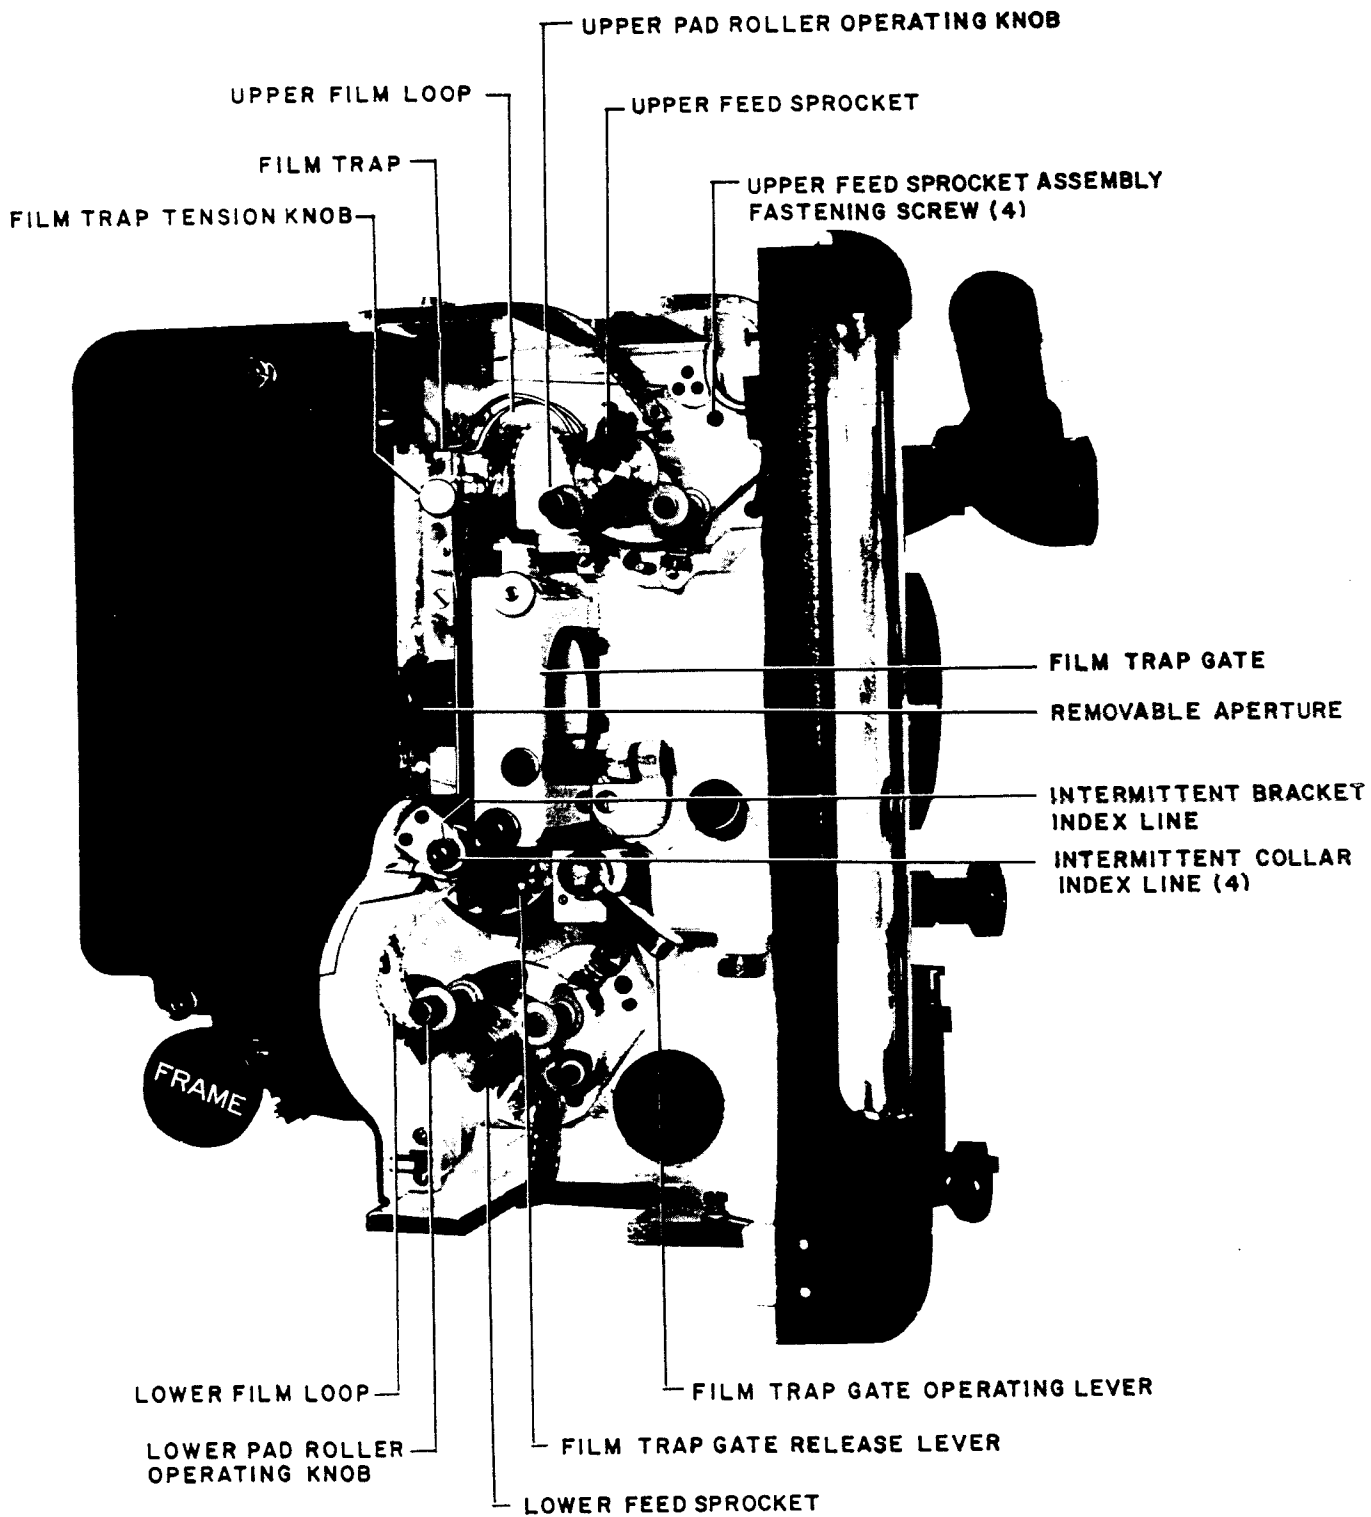

Figure 2-3
1. Remove the film trap gate (figure 2-3)(Section IV, paragraph B, 1.) inspect the film runners for dirt, grit or other foreign material, and clean with a cloth.
2. Remove the film trap (figure 2-3) (Section IV, paragraph C, 1.) inspect pressure straps and lateral guide rollers for dirt, grit or other foreign material, and clean with a cloth.
3. Film Trap Tension (See figure 2-3.)